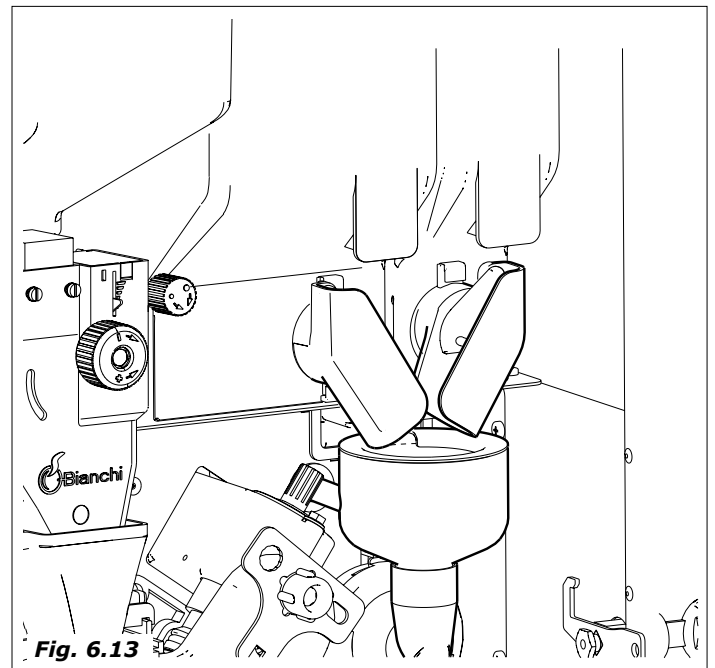

Fig. 6.13
- at the end of the water filling (Fig. 6.13), effect a cleaning cycle of the mixer group so as to fill all the circuits and remove eventual residues from the boiler.